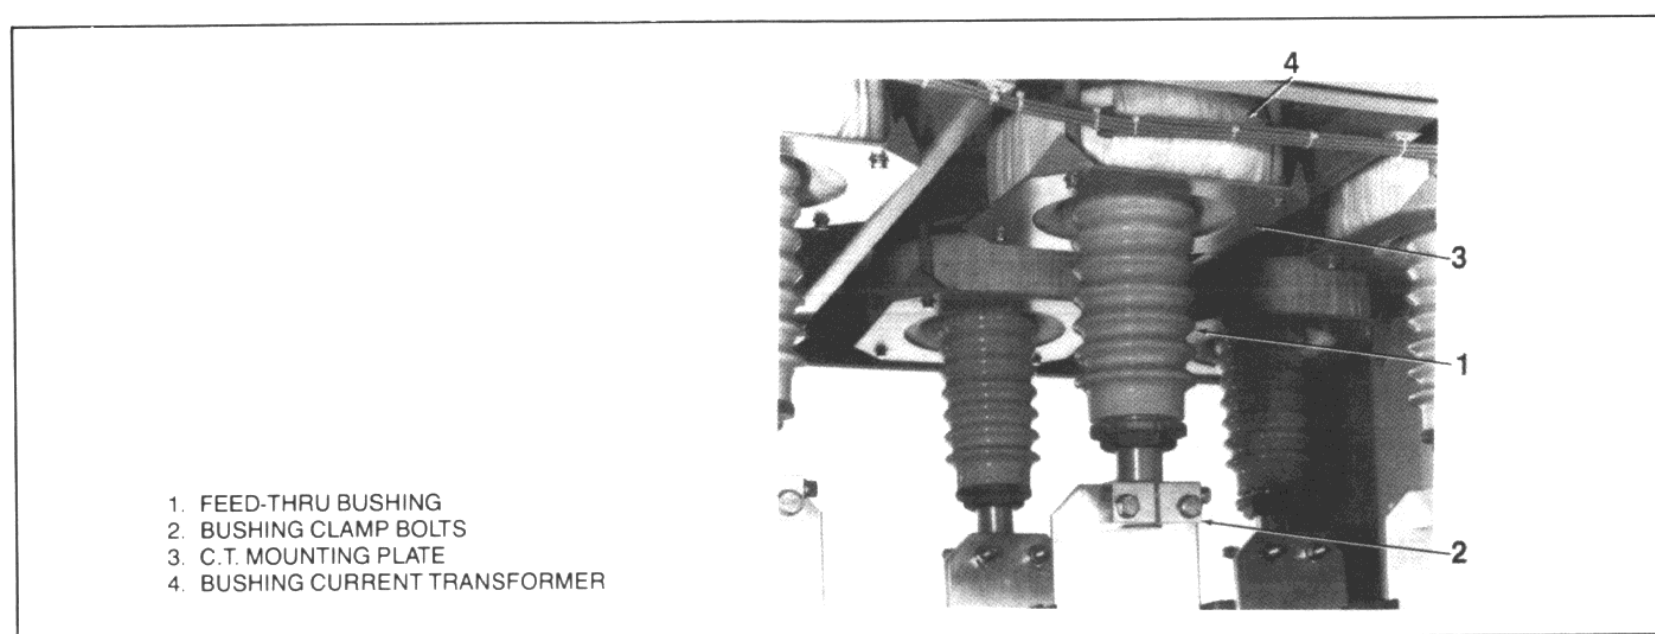
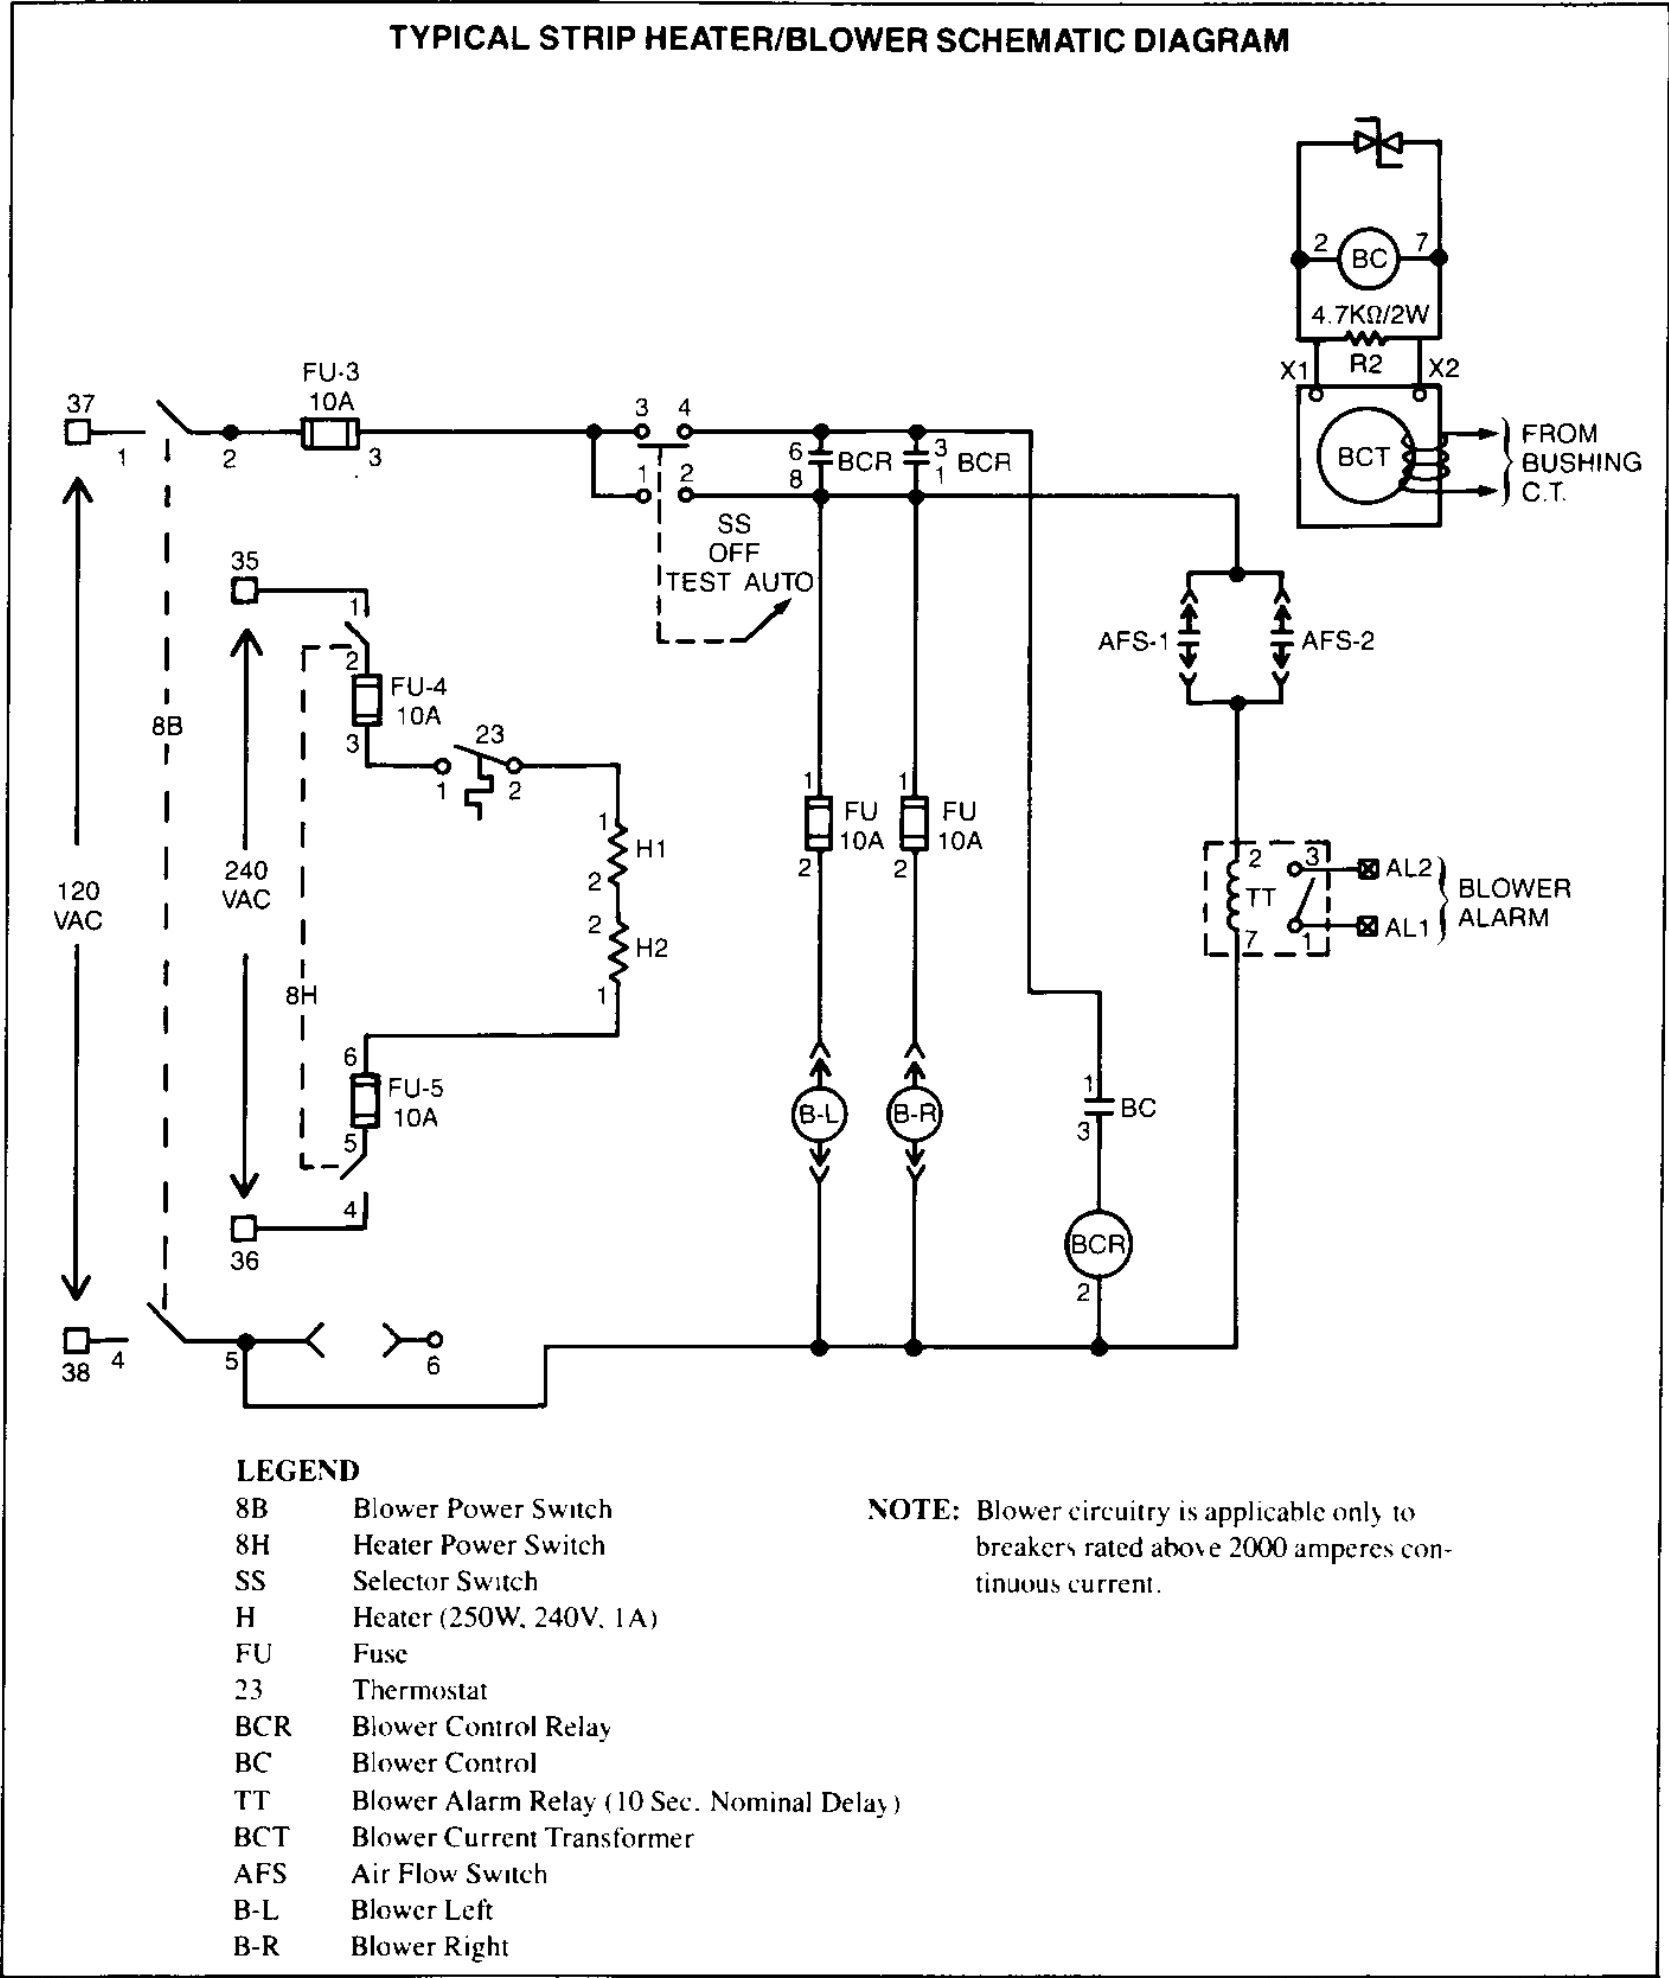

Figure 7
Figure 8
5. Discharge to ground the feed-thru bushing conductors (Figure 7, 1) and vacuum interrupter mid-band ring before handling. These areas can retain a static charge after a hipot test.
In normal configurations, two strip heaters (H-1 and H-2, Figure 8) are mounted at the lower rear of the operating mechanism. Their function is to prevent moisture condensation within the circuit breaker housing.
When opened, the heater power switch (8H) (Figure 8) completely disconnects the control power from the heater circuitry. Both poles of this switch are fused.
contacts within the thermostat (Figure 8) connected between terminals 1 and 2 apply power to the strip heaters H-1 and H-2.
The primary winding of the blower current transformer (BCT) (Figure 8) is provided by the X1 lead of one of the bushing current transformers (Figure 7, 4).
The function of the blower control (Figure 8) is to sense precisely the output of the blower current transformer (BCT), and at an output voltage representing a primary current level above 2000 amperes, to energize the blower control relay (BCR) by closing a pair of normally open contacts in series with the blower control relay (Figure 8).
When energized by the closing of the normally open contacts of the blower control (BC), the blower control relay (Figure 8) applies control power to the blowers and the blower alarm circuit (See section 3.6.3) through the closing of two sets of parallel connected, normally open contacts. Additionally, one set of normally closed contacts is employed to disable the heater circuit whenever the blowers are energized.
Placing the selector switch (SS) in the "Test" position, overrides the automatic control circuitry described in the preceding sections, and directly connects the control power to the blowers and alarm circuitry (See section 3.6.3). The blowers and alarm circuitry will remain energized for as long as the selector switch (Figure 8) remains in the "Test" position.
The blower alarm circuitry (Figure 8) consists of two air flow switches (AFS-1 and AFS-2) — one located in the air flow path of each blower — and a delay-on device (TT).
3.6.3.1 Blower Alarm Delay (TT)
When initially energized, the blowers require a few seconds to develop enough air flow to actuate their respective air flow switches. To eliminate the possibility of a false alarm during this initialization period a time delay device (TT) is employed to disable the blower alarm circuitry momentarily until the blowers have been provided enough time to build up their air flow. The blower alarm delay (TT) (Fig. 8) provides a nominal delay-on period of 10 seconds.
Each air flow switch contains a set of form C contacts. As shown in Figure 8, the normally closed segment of these contacts is employed in the blower alarm circuitry.
User supplied power from input line AL2 on the blower alarm terminal block (Figure 8) will then be connected to output AL1 of the blower alarm terminal block.